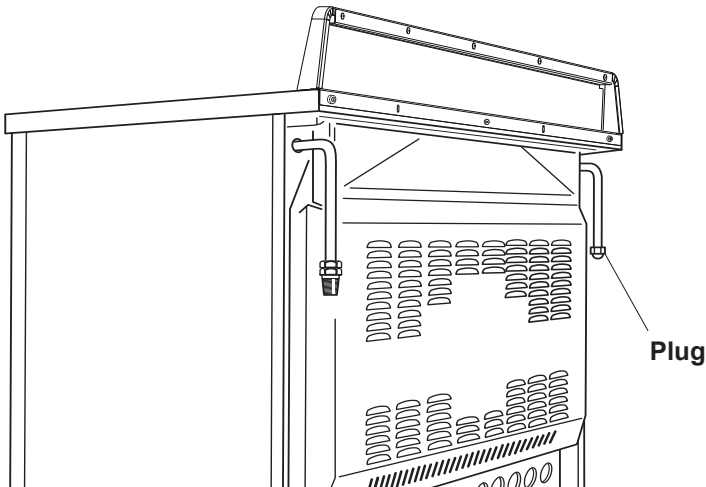

Fig. 2.1a
- The gas supply is connected at the rear of the cooker to the right or left terminal of the gas inlet pipe (fig. 2.1a). The connection pipe must not cross the rear of the appliance.